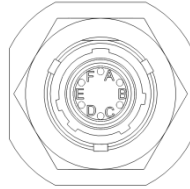

Figure 2 – Radio Interface
2.2 Radio – The radio interface connector is a six pin 71-533722-06P circular waterproof connector that interfaces the handset connector described in paragraph 2.1 to the handset connector on the radio. Figure 2 and Table 2 describe the radio interface.